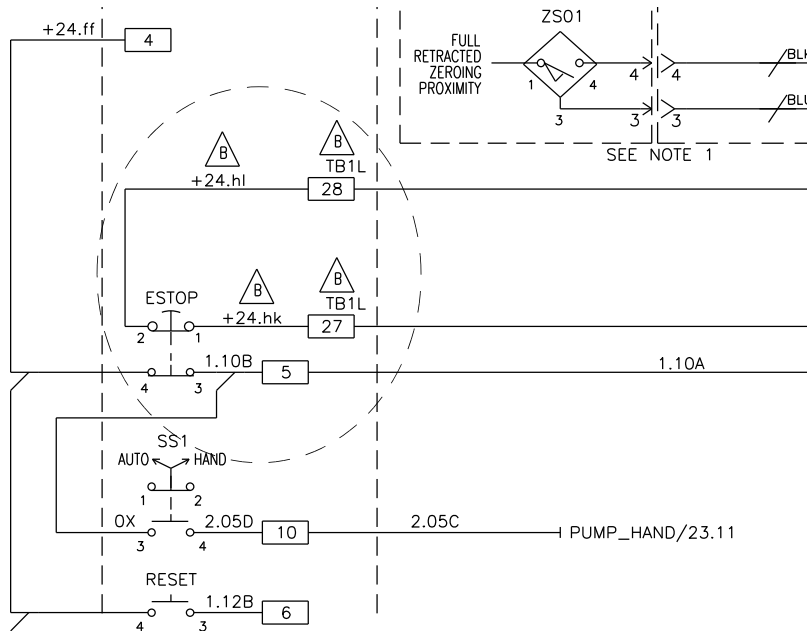

Figure 7: Detail AA: New E-STOP Button Configuration
- Use red 18 AWG cable to connect terminal TB1L28 in the control console to one side of the NC contact block on the E-STOP button (Figure 7, page 8, +24.hl).
- Use red 18 AWG cable to connect terminal TB1L27 in the control console to the other side of the NC E-STOP button (Figure 7, page 8, +24.hk).